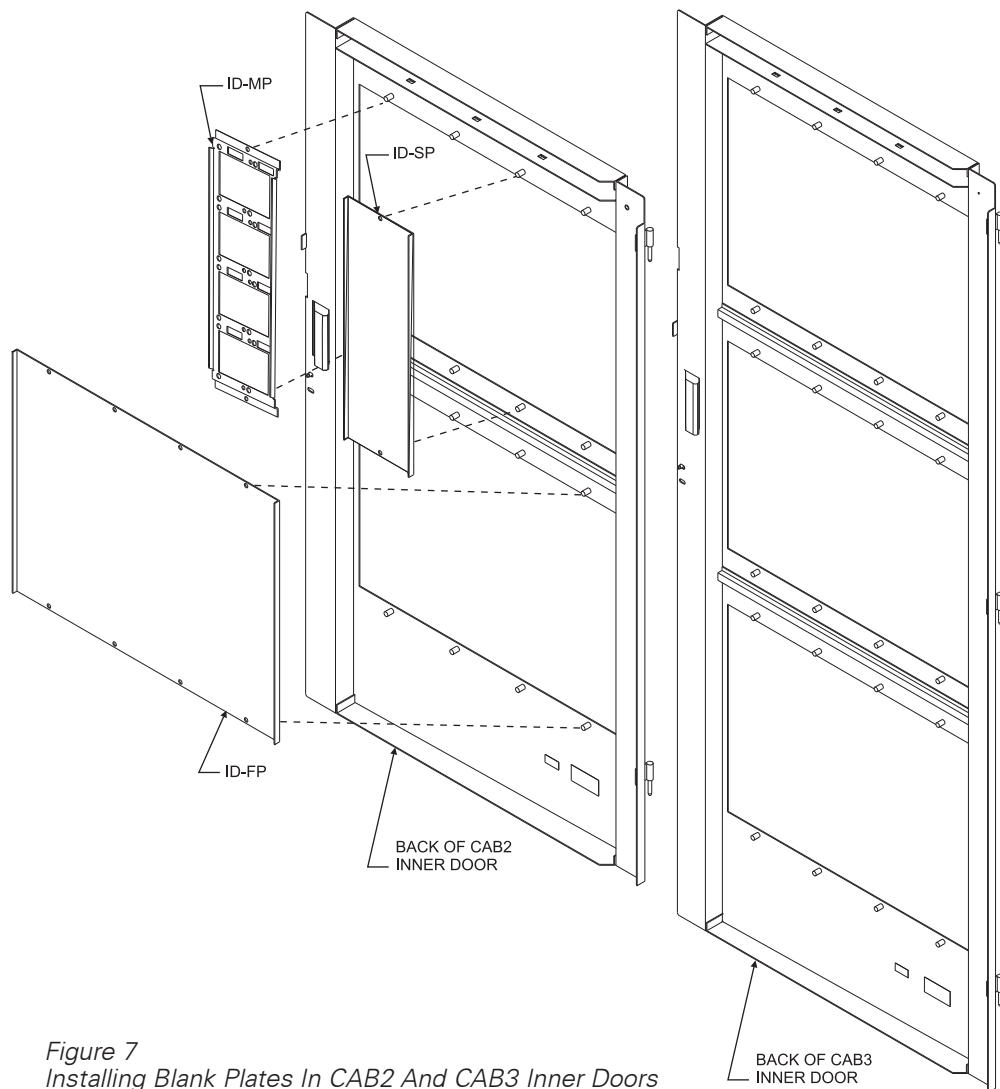

Figure 7
2. Insert blank plates, as needed, in unused spaces on door and secure with 10-32 nuts. (Refer to Table 1 and Figure 7.)